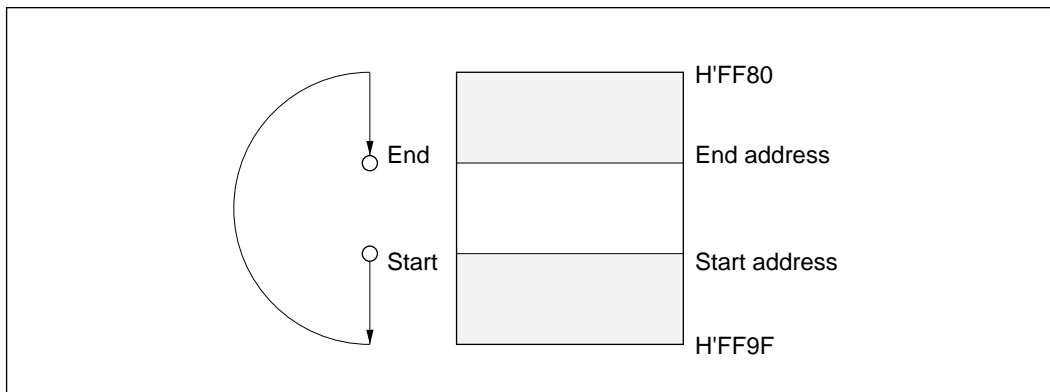

Figure 10-3-4 Operation When End Address is Smaller than Start Address
- The start and end addresses of the transfer data area are set in STAR and EDAR. If the end address is set smaller than the start address, as shown in figure 10-3-4, the transfer wraps around from H'FF9F to H'FF80 and continues to the end address. If the start address and end address are the same, only one byte of data will be transferred.